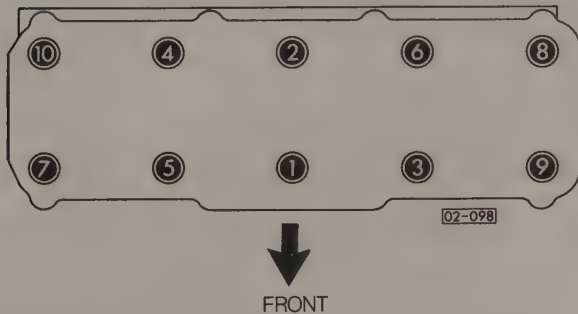

Fig. 4-19. Cylinder head bolt tightening sequence for all 1985–1988 gasoline and diesel engines.
6. Torque the bolts to 40 Nm (30 ft. lb.), in the sequence shown in Fig. 4-19. Repeat the sequence, torquing the bolts to 60 Nm (43 ft. lb.). Repeat the sequence a third time, tightening each bolt an additional 1/2 turn. Alternatively, this last step may be done as two 1/4 turns.